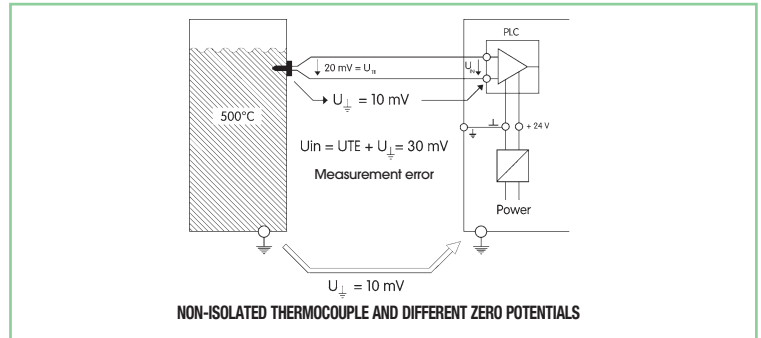

fig. 3
- electrically isolates and separates the circuit of the sensor from the control and power supply circuits. Thus each circuit operates with reference to its own zero potential which, being isolated from other circuits, cannot be altered by differences in potential always present between different earth references (Figs. 3 and 4).